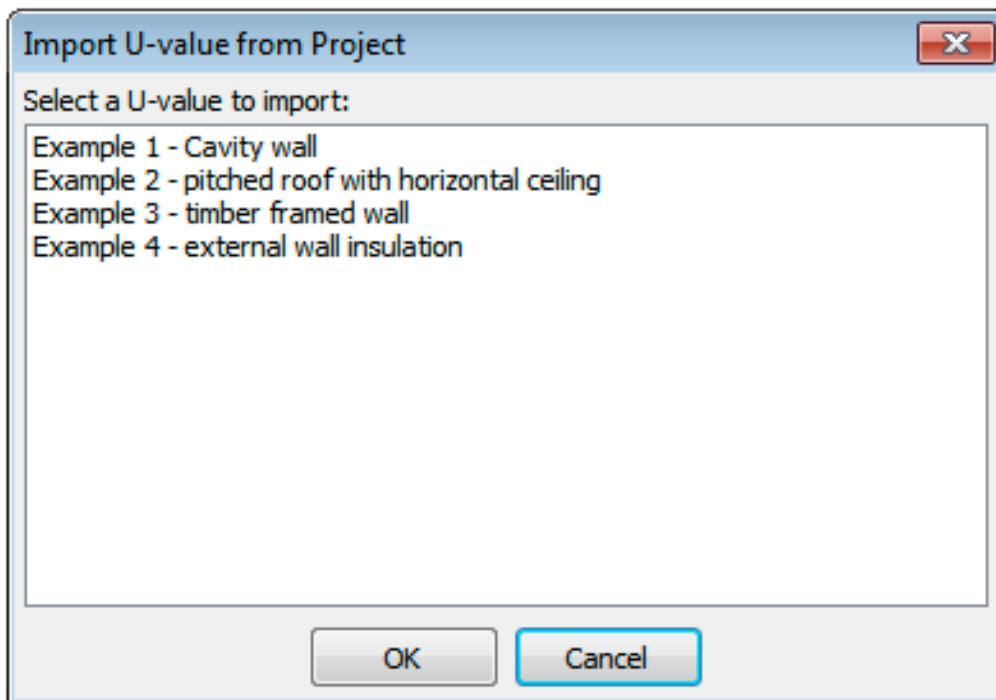

Figure 2: The Import U-value dialogue
4. At the **Import U-value from Project** dialogue (Figure 2)select the U-value calculation from the list and click **OK**.